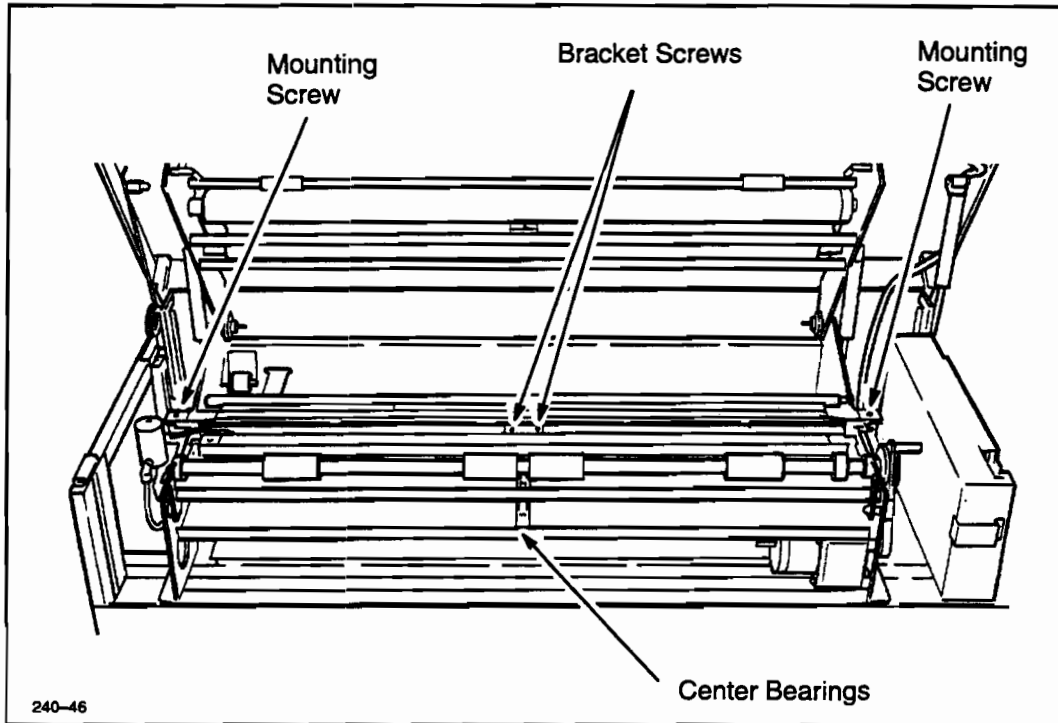

Figure 6-41. Writing Head Removal
8. Using a 3 mm hex wrench, remove the two screws that mount the center head bracket to the writing head. See Figure 6-41.